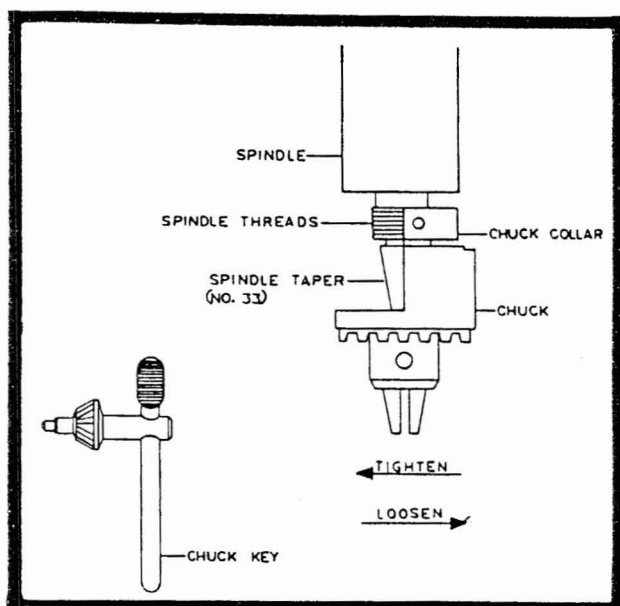

FIGURE 5
- a. Wipe off the No. 33 spindle taper and tapered socket in chuck body (Fig. 5) with a clean cloth. Make sure no foreign particles are left on these surfaces which could prevent proper seating of the two parts.
- b. Apply a light film of oil on the spindle taper and place chuck on end of spindle (Fig. 5). Screw chuck collar on to the threads at end of spindle. Hold spindle pulley with one hand to keep spindle from rotating and tighten the chuck collar with drill chuck key.
- c. When removal of the chuck is required - - disconnect power source. Hold top spindle pulley with one hand and using chuck key handle, loosen chuck collar by turning counter - clockwise (Fig. 5). Continued rotation of the collar will force the chuck off tapered spindle. NEVER attempt to drive or wedge chuck off as damage could result to chuck, spindle nose and spindle bearings.